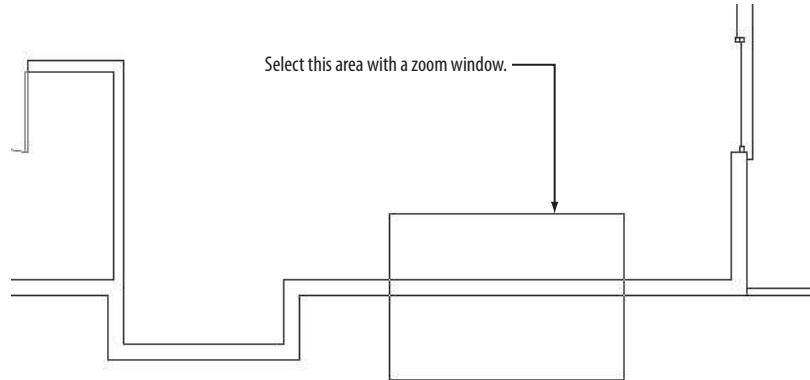

FIGURE 7.24: Making a zoom window
4. Using a zoom window, zoom in to a horizontal section of wall where there are no jamb lines or intersections with other walls (see Figure 7.24).